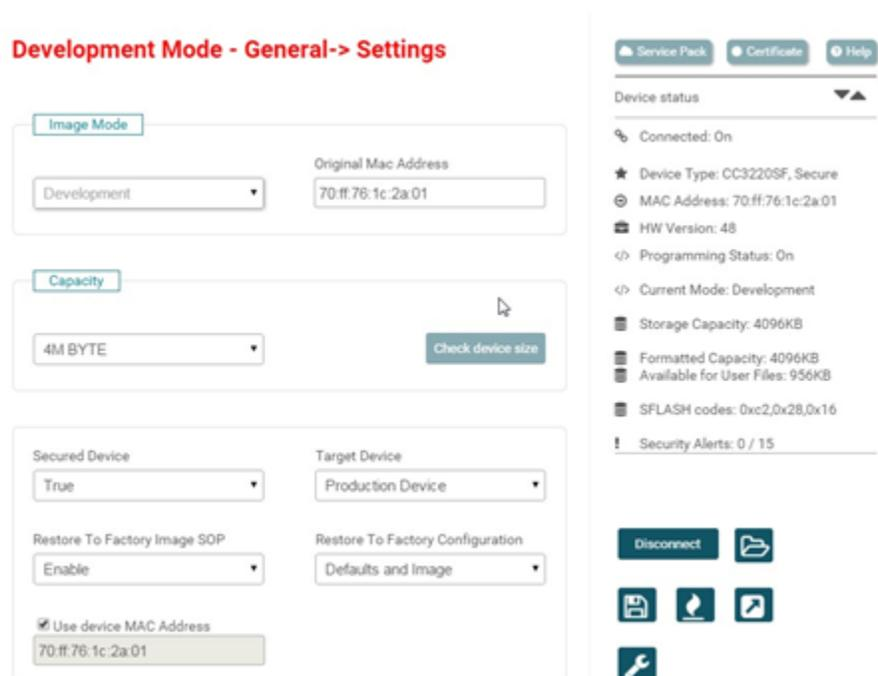

Figure 12. UniFlash General → Settings
- Navigate to General → Settings (see Figure 12) by using the left-side navigation panel and ensure that the image mode is set to Development.
- Ensure the Use device MAC address option is selected (see Figure 12) and that the MAC address appear on the top.